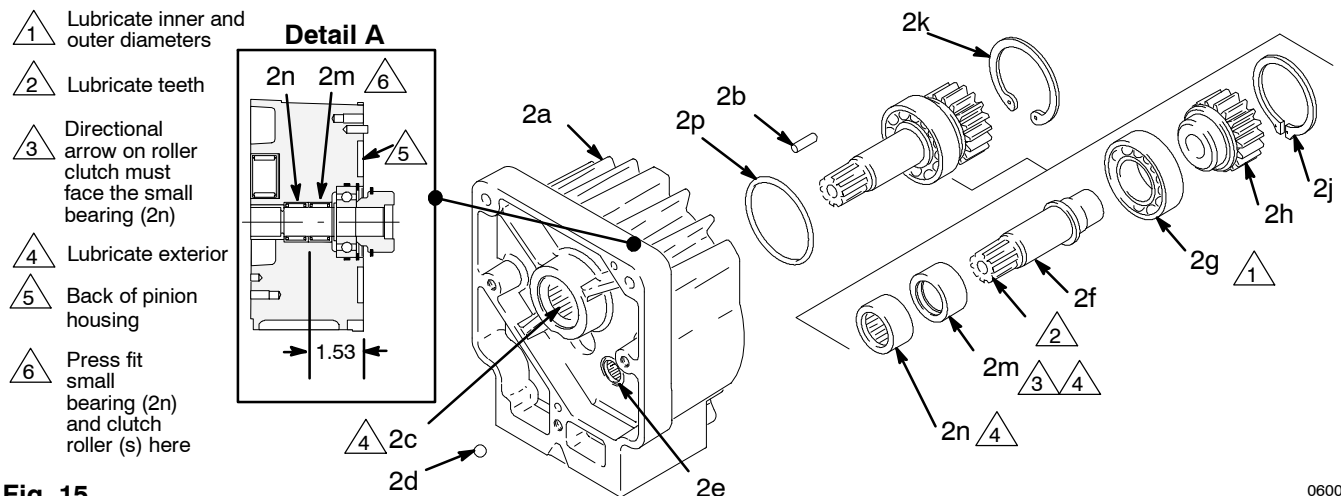

Fig. 15
3. Remove the two bottom screws (31) and lockwashers (16) first, then remove the top three screws (31) and lockwashers (16).
4. Pull the pinion housing (2) away from the clutch housing (1). The armature (51b) will come with it.
5. Pull the armature (51b) off the hub (2h**) of the pinion housing. Also see Fig. 15.
6. If replacing the complete pinion housing assembly (2), brush G-n lubricant (supplied) on the pinion shaft teeth. Then recoat the pinion shaft teeth with bearing grease (supplied). Pack the remaining bearing grease in the bottom part of the pinion housing. Use 0.08 pint of the bearing grease.
Repairing the Pinion (Fig. 15)
5. Apply lubricant to the parts as shown in Fig. 15.
- Small bearing (2n) and then the roller clutch (2m), with the directional arrow facing the small bearing, into the rear of the housing (2a). See Detail A in Fig. 15.
Examine the splined hub (2h**, Fig. 15, page 27) for wear. Replace as needed. Follow the Pinion Housing instructions, page 27.